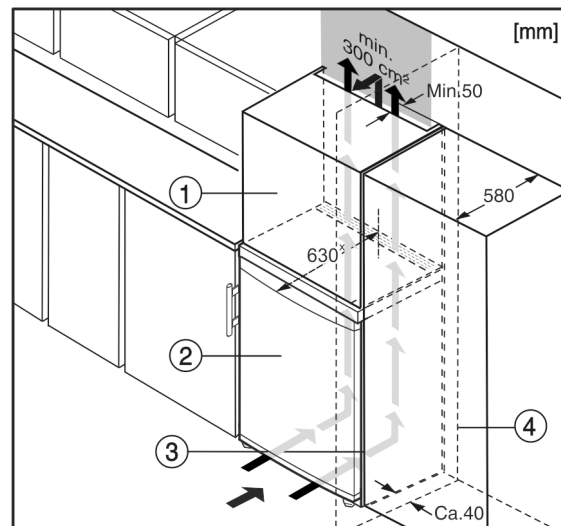

Fig. 10
- (1) Top cupboard*
- (2) Appliance*
- (3) Kitchen cabinet*
- (4) Wall*
The appliance can be built into kitchen units. A top cupboard Fig. 10 (2) can be added above the appliance in order to bring the appliance Fig. 10 (1) up to the height of the fitted kitchen units.
If you are integrating the appliance into a kitchen unit (max. depth 580 mm) you can install it right next to the kitchen cabinet Fig. 10 (3). The appliance measures 34 mm × at the side and 50 mm × at the centre in relation to the front of the kitchen cabinet.*
If you are installing the appliance with the hinges next to a wall Fig. 10 (4), the distance between the appliance and the wall must be at least 40 mm. This is how far the handle protrudes when the door is open.*